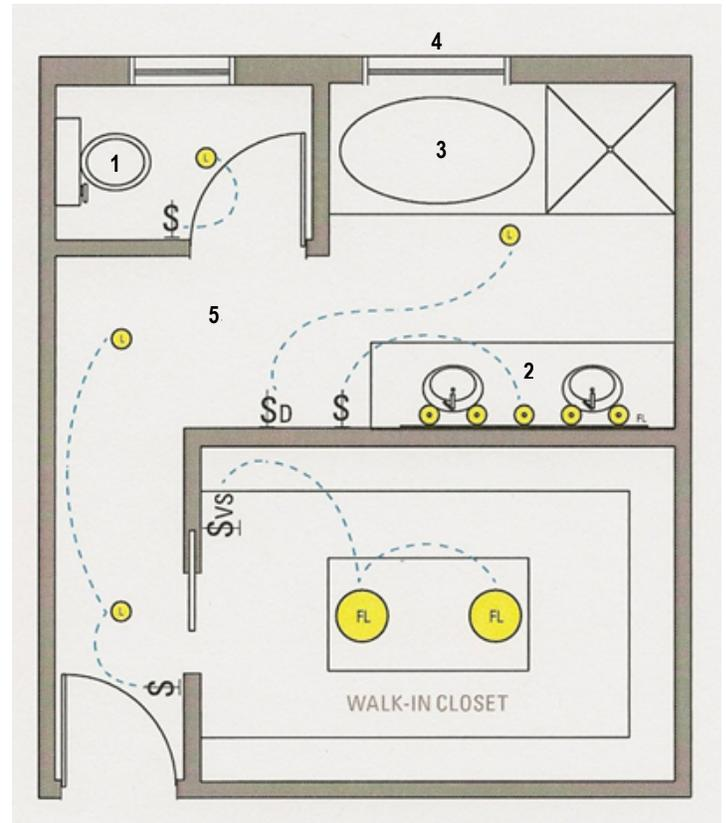

Figure 1
If the scope of work includes the reconfiguration of the bathroom layout, please bring **three (3)** sets of plans (minimum 8 1/2-in x 11-in drawings) or one digital copy depicting the existing and proposed bathroom floor plan and a written detailed description of the scope of work. It is important the plans clearly show all work proposed to avoid delays in permit issuance. Once a permit is issued, the scope of work is limited as defined and illustrated in the documents filed and the items to be replaced in the checklist below. See sample (figure 1) on next page. The applicant is responsible for compliance with all code regulations. If the scope of work is altered after permit issuance, the applicant shall request the permit be updated.